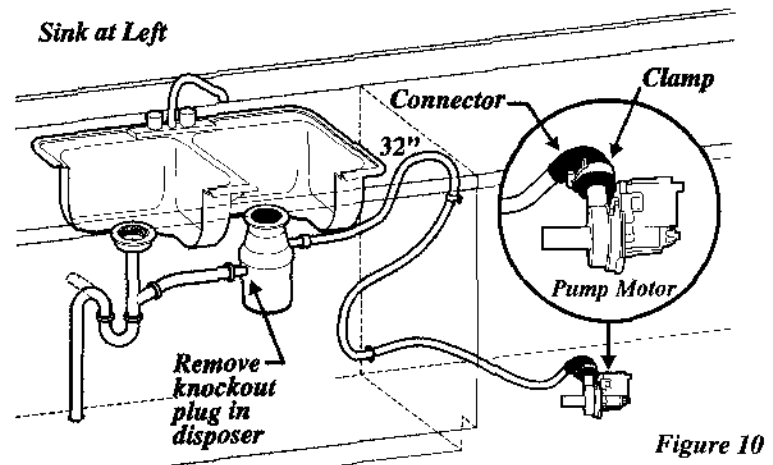

Figure 10
4. Be sure unit does not rest on drain hose. It should be free of electrical components and door springs. Do not cut corrugated drain hose. Pull excess through cabinet and place under sink. Make sure hose does not come in contact with any sharp edges. **See Figure 10.**